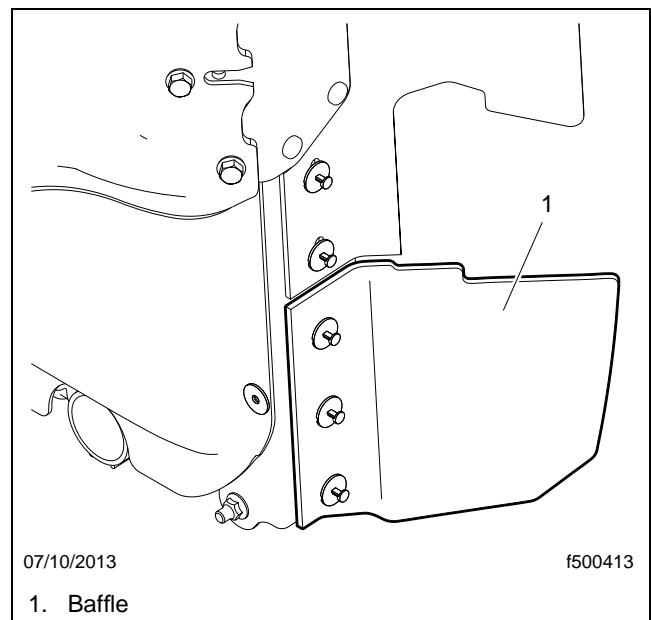

Fig. 2, Removing the Lower Baffle
5. Remove and discard the lower right-hand radiator baffle. See **Fig. 2**.